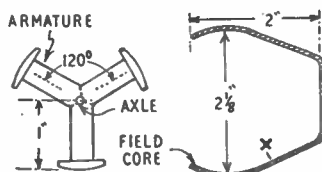

Fig. 1—Magnet cores
Tripolar armatures are never easy to construct, but that used here is not unduly difficult, as the cores consist of three 1 in. sections, including heads, sawn off three iron bolts about $\frac{1}{4}$ in. in diameter. These bolts will only cost a few pence from an ironmonger. The three pieces are filed at an angle, so that they will meet as shown in Fig. 1, a notch being filed to accommodate the axle. If initial sawing has been a little inaccurate, the pieces should be filed so that they are all the same length.
This is bent to the shape and size shown in Fig. 1, a strip of soft iron about $\frac{1}{4}$ in. wide and $\frac{1}{8}$ in. thick being used. A hole is drilled at (X) so that the core can be screwed to the baseboard. The straight portion is then covered with brown paper or tape, and about 600 turns of 26 or 28 S.W.G. wire